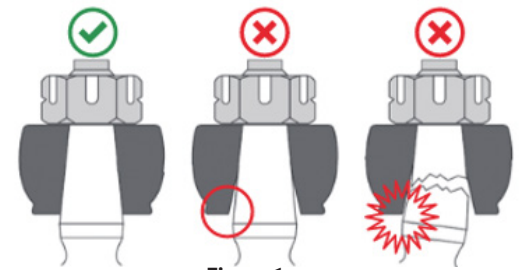

Figure 1.
- If a broken, bent or loose ball joint stud is discovered, the knuckle must be replaced. If there is deformation, an out-of-round condition or damage to the tapered mating surfaces of the steering knuckle, it must be replaced. **See Figure 1.**